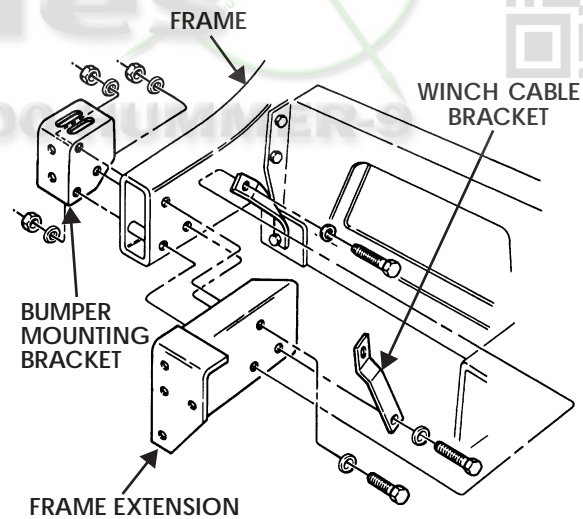

Figure 9-18: Frame Extension
3. Remove two locknuts, washers, capscrews, and washers securing front suspension brace to frame extension (Figure 9-18).
1. Install bumper mounting bracket, frame extension, and winch cable bracket on frame with three washers, capscrews, washers, and locknuts. Do not tighten locknuts (Figure 9-18).